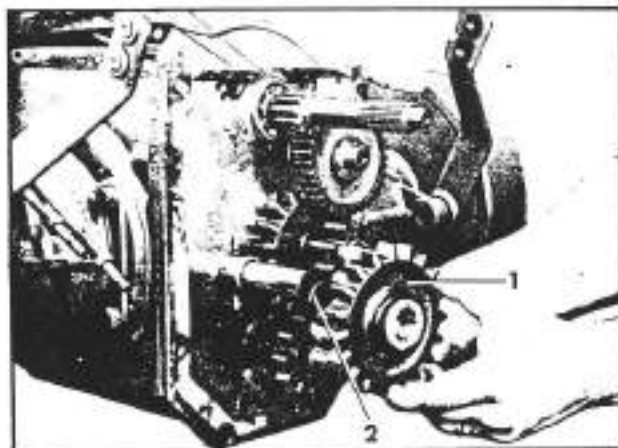
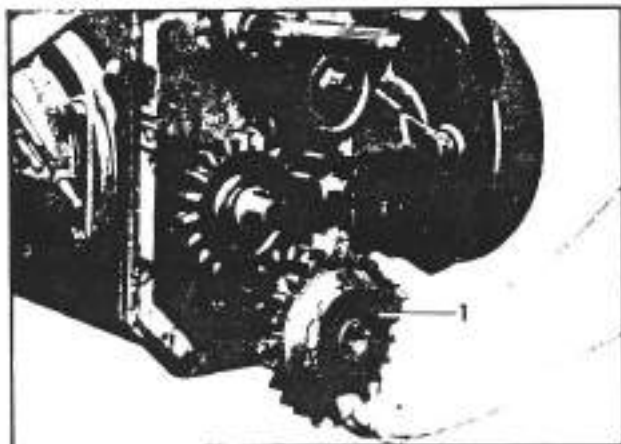
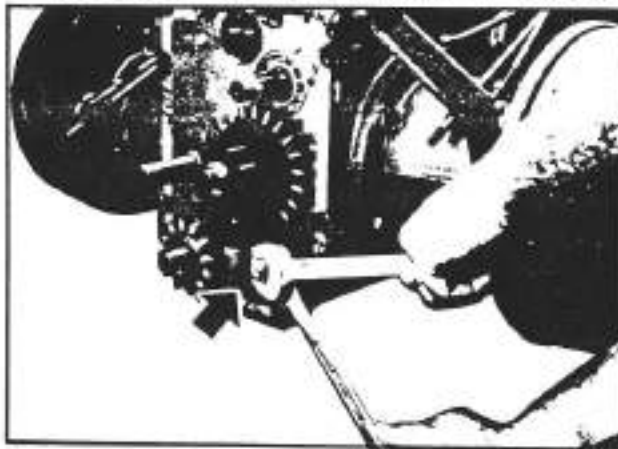
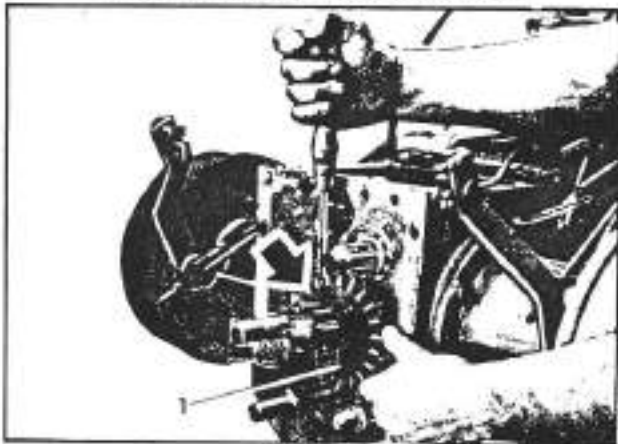

Fig. 3-17. Removal of the reverse gear and washer
Fig. 3-16. Removal of the reduction bell gear
Fig. 3-20. Removal of the control fork group.
Fig. 3-21. Removal of the double idling gear
- m. Ease out the reduction bell gear (1; fig. 3-16) and the reverse gear (1; fig. 3-17) with its relative washer (2; fig. 3-17).
- o. Loosen the lock nut of the control fork of the Part I sliding gear as indicated in figure 3-20 and extract the entire group.
- p. As shown in figure 3-21, ease out the double idling gear (1; fig. 3-21).
- Ascertain that, after assembly, the reverse gear (see figure 3-20), slides easily along the shaft, and that the reduction bell gear (1; fig. 3-16) meshes perfectly with the idling gears (1; fig. 3-21).
- Mount the reverse gear (1; fig. 3-17) so that the collar of the bushing faces the clutch bell housing.